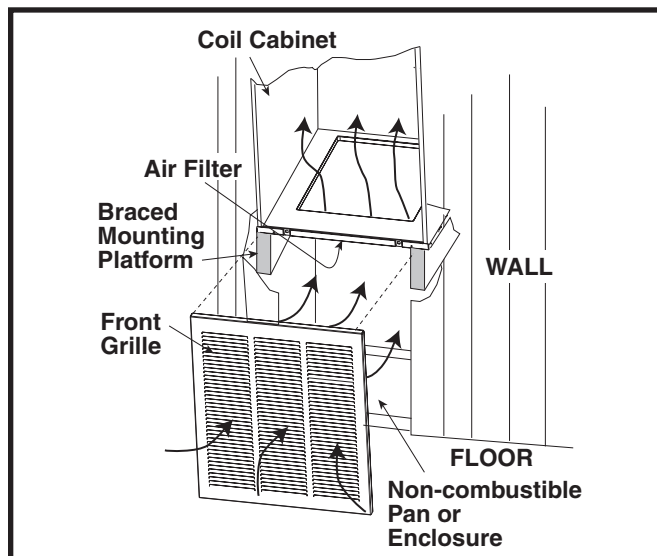

Figure 12. Over-the-Floor Return Air System
1. If floor underneath Appliance is made of combustible material, locate a pan fabricated of non-combustible material with 1" (25 mm) upturned flanges under Appliance return air opening. See Figure 12 \(page 9\).
7. Install return air grille in closet preferably at same level as upflow stand or below mounting platform. See Figure 12.